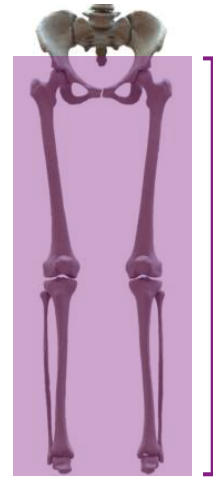

Figure 12
- Images must be acquired from the anterior inferior iliac spine to the ankle and should include at least the talus. The entire foot can be included (see Figure 12).